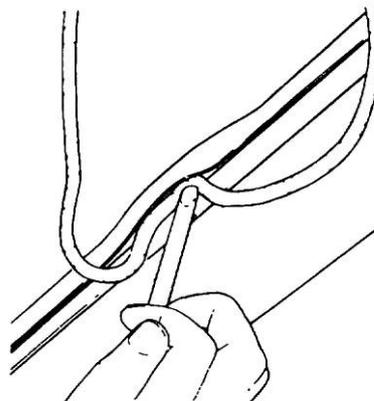

Figure 159 Installing Rope into the Rubber Seal
- d. Using approximately four metres of rope with a diameter of 7 mm, insert the rope into the groove of the rubber (Figure 159), starting at the bottom centre of the glass and leaving enough rope at the start to enable it to be pulled on installation.